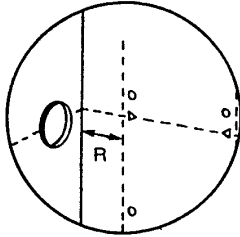

Fig. 40
1. **For both Left and Right Hand Flue** – Measure the distance from the wall to the nearest line marked from the template. This will be known as distance R (Fig. 40).